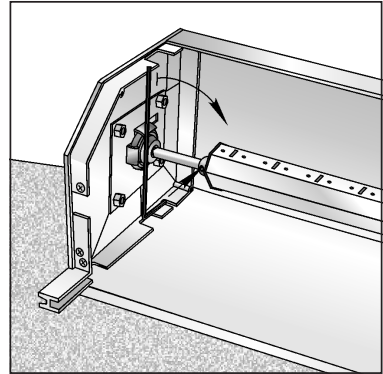

Fig. 18
- tighten the screw by force to make a cast at the rod (Fig. 18);